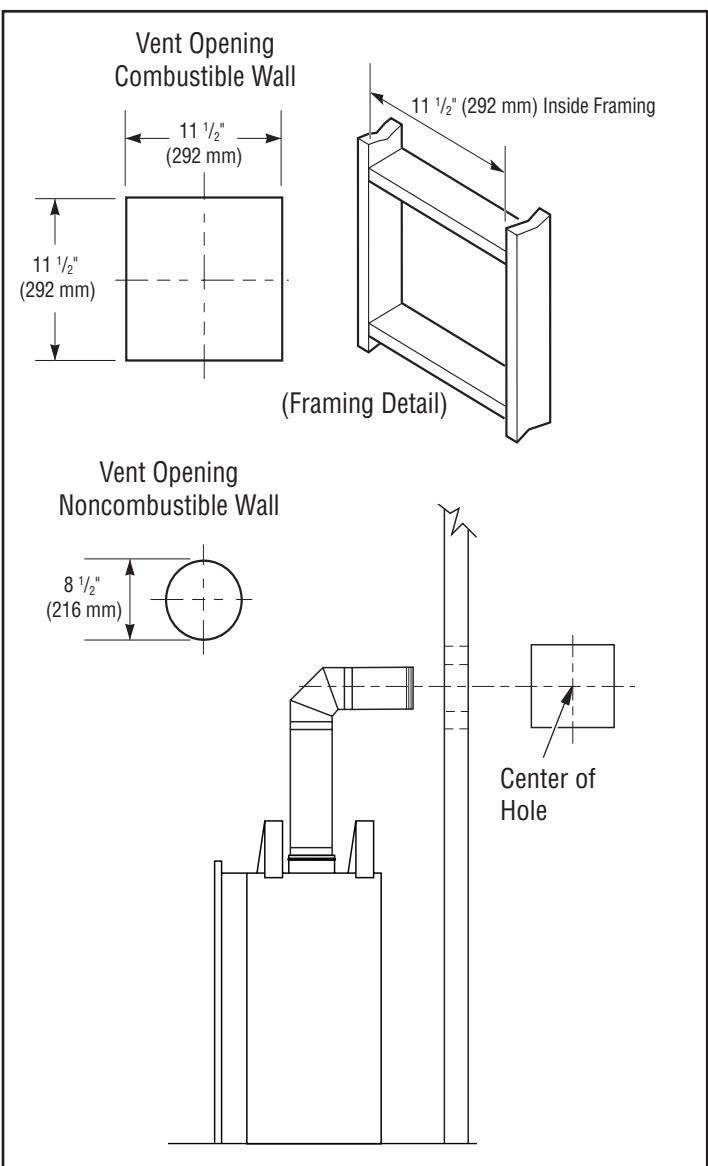

Figure 10 - Vent Opening Requirements
4. Carefully determine location where vent pipe assembly will penetrate outside wall. Center of hole should line up with center line of horizontal vent pipe. Mark wall for an 11-1/2" x 11-1/2" square hole. Cut and frame square hole in exterior wall where vent will be terminated. If wall being penetrated is constructed of noncombustible material, such as masonry block or concrete, an 8-1/2" hole with zero clearance is acceptable (*see Figure 10, Page 13*).
- Cut an 11-1/2" square hole in ceiling using locating hole as a center point. Opening should be framed to 11-1/2" x 11-1/2" inside dimensions, as shown in **Figure 10 on Page 13** using framing lumber the same size as ceiling joists. If area above ceiling is an insulated ceiling or an attic, nail firestop from top side. This prevents loose insulation from falling into required clearance space. If area above ceiling is a living space, install firestop below framed hole. Firestop should be installed with no less than three nails per side (see **Figure 15, Page 12**).
- Cut a hole in the roof using locating hole as a center point. (Cover any exposed open vent pipes before cutting hole in roof.) The 11-1/2" x 11-1/2" hole must be measured on the horizontal; actual length may be larger depending on pitch of roof. There must be a 1" clearance from vent pipe to combustible materials. Frame opening as shown in **Figure 10, Page 13**.